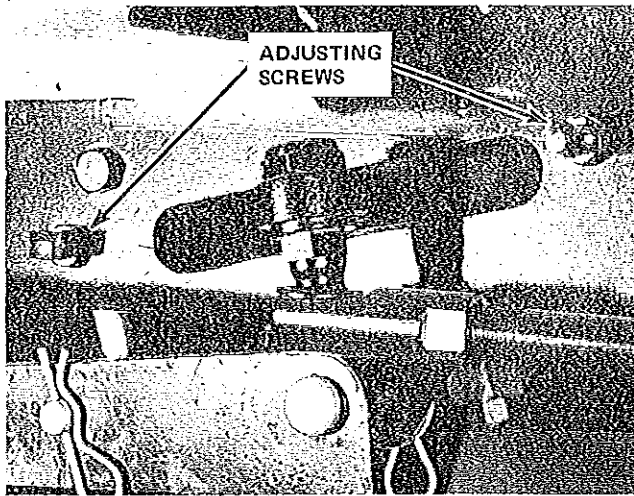

Figure 32
A. You will find a slot in the right hand frame at the rear of the steering drag link where it connects to the steering gear. (See Figure 32.) Near each end of this slot is a square head setscrew, with lock nut, inserted in the frame.